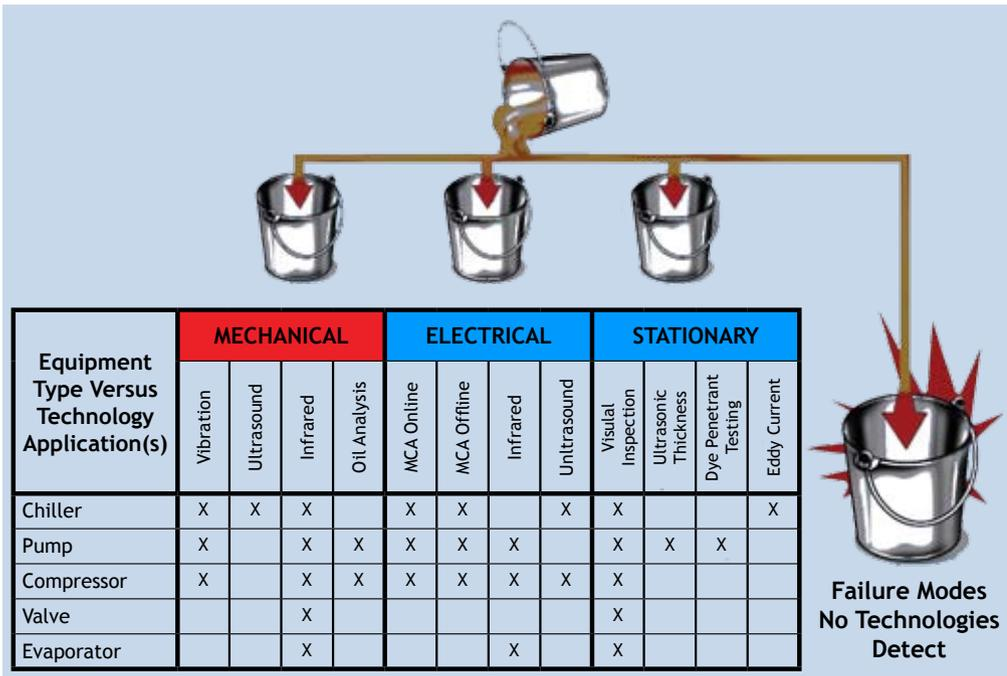

Figure 7 - Asset Health Matrix
3. The site must have utilized an Asset Health Matrix (Figure 7, page 13)